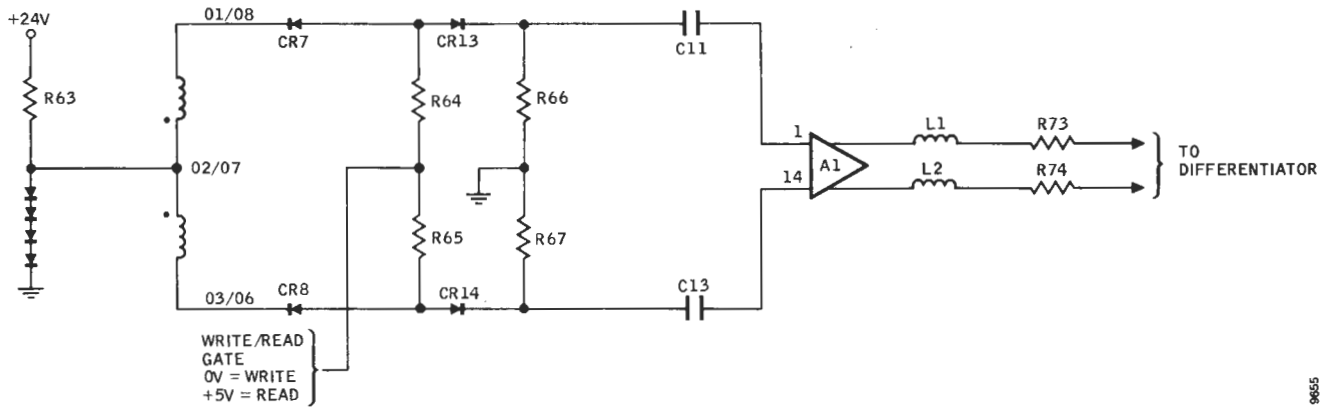

Figure 3-32. Read/Write Matrix Gate for Read
- Read/Write Matrix – Read Mode – The read/write matrix is conditioned for a read operation when the junction of R64 and R65 is at +21 volts (see Figure 3-32). This potential forward-biases diodes CR7 and CR8 and allows current to flow through either the upper or lower branch circuit.